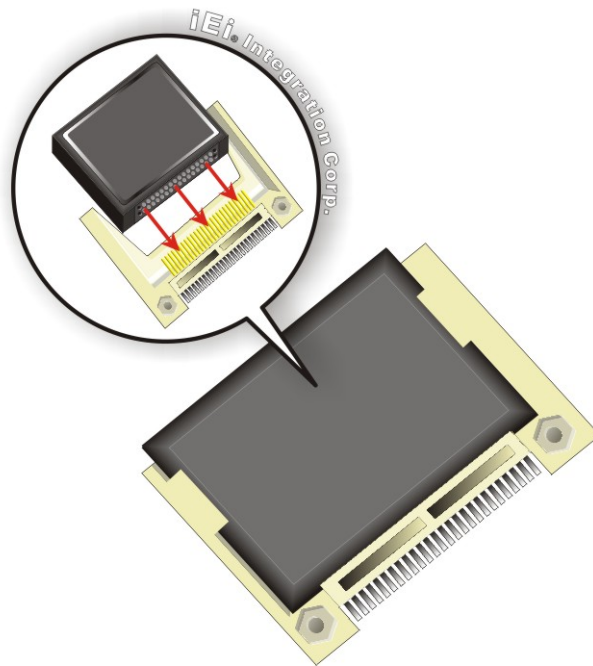

Figure 4-12: CompactFlash® Card Installation
Step 3: Insert the CF card. Push until the CompactFlash® card is firmly seated in the slot. See **Figure 4-12**.